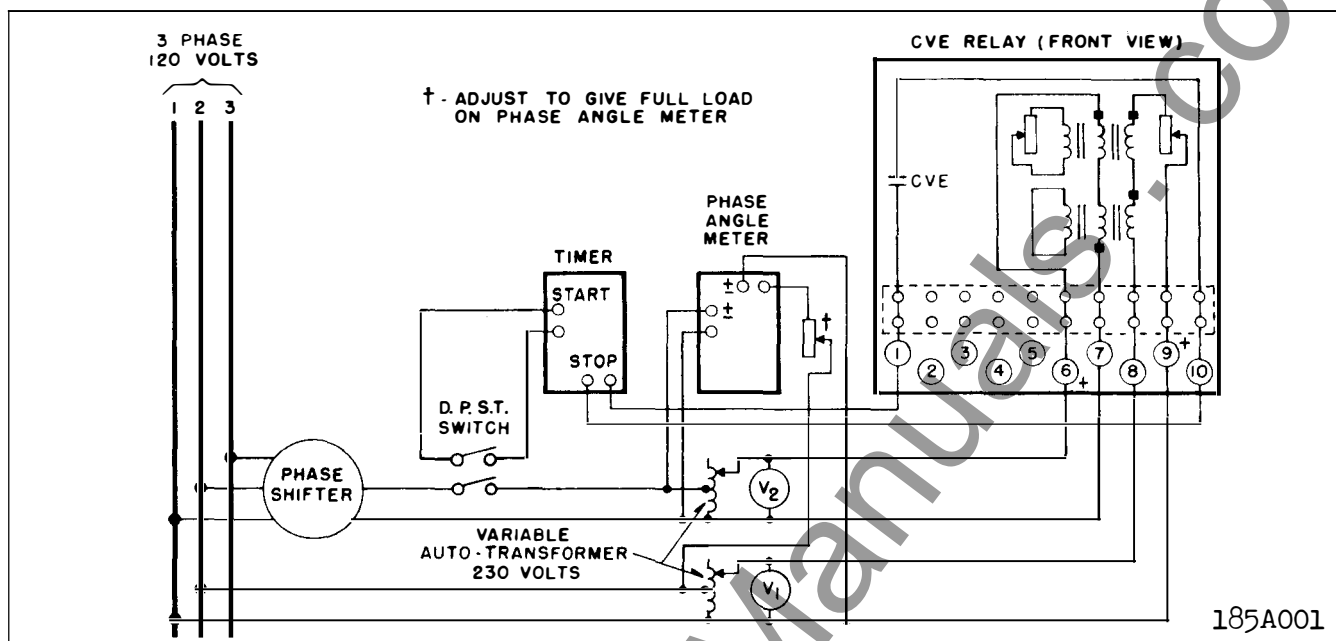

Fig. 12 Diagram of CVE Test Connections.
2. Operating Circle - Connect the relay per the test diagram of Fig. 12. The contacts should just close under the following two conditions:
3. Spurious Torque Adjustments — With the relay set as per the preliminary adjustments, open the lag coil circuit of the rear electromagnet. This can be done by opening the screw connection on the lag coil of the rear electromagnet or by inserting a piece of insulating material under the adjustable point of the left hand resistor (front view). Connect the relay to test circuit of Fig. 12 and apply rated voltage at zero phase angle on both circuits. With the right hand plug all the way in, adjust the left hand plug of the rear electromagnet such that the disc does not move from the number 11 time dial position. This can be determined by no movement of the disc when the time dial is moved beyond the number 11 position.
With V_1 in Fig. 12 equal to rated voltage the following approximate voltages should be obtained across the coils of the 120 volt relay. Relay set for 20 degree circle.